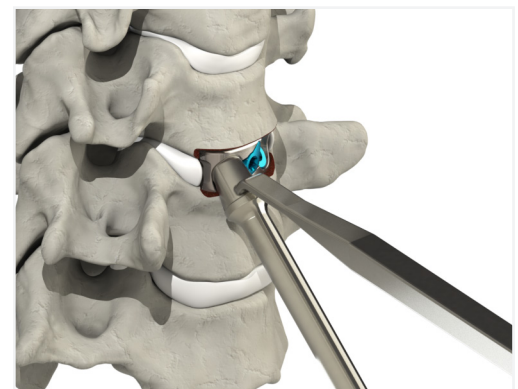

Figure 17
- ▲ Select the desired awl or drill and attach the Quick Connect Handle at the end of the instrument. Insert the distal end of the awl or drill through the desired guide to puncture the cortical bone of the vertebral body (Fig. 17). Repeat this step through both guide holes in the inserter.